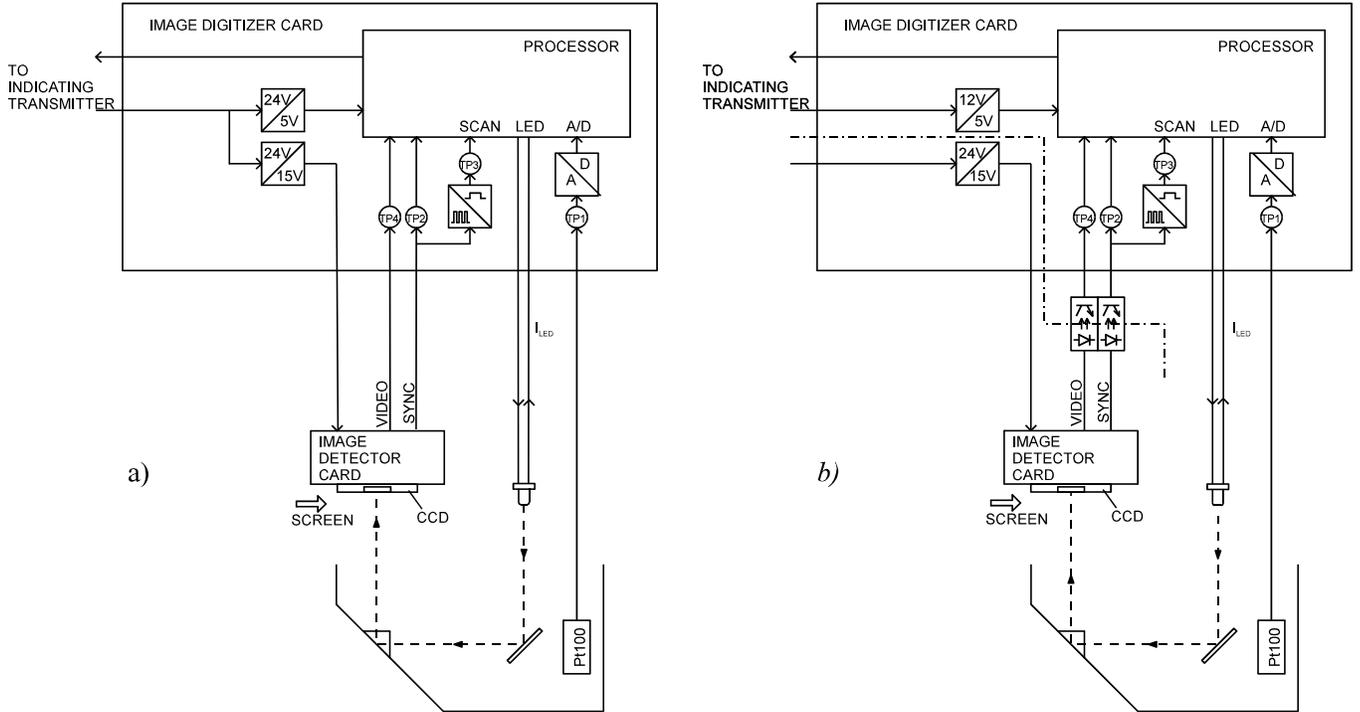
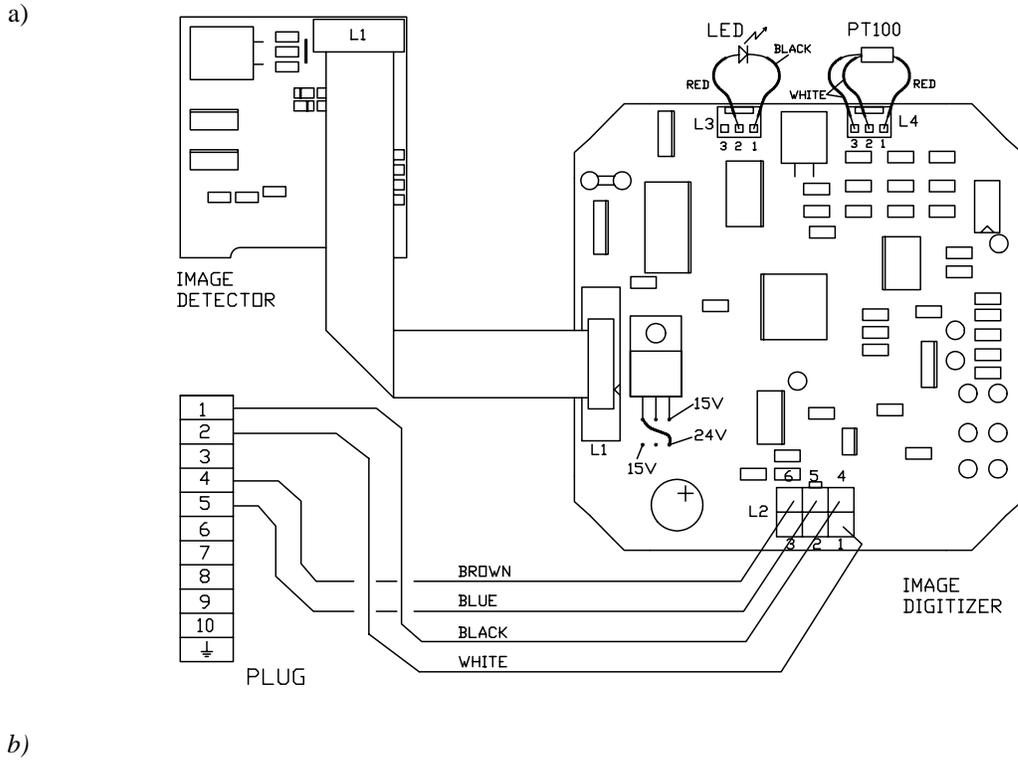
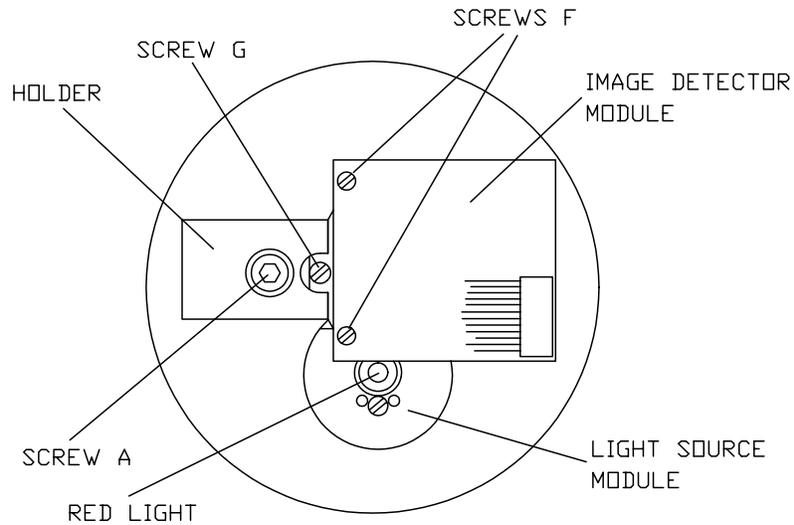
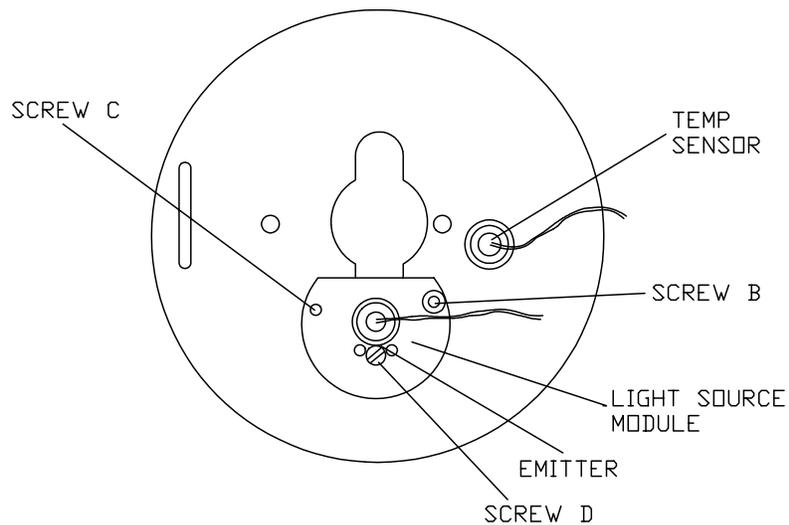

Figure 6.50 Sensor information and power flow.
Figure 6.52 Sensor electronics test points.
Figure 6.80 Sensor: Image Digitizer Card removed.
Figure 6.81 Sensor: Image Detector Module removed.
Study Figure 6.50 to get a basic understanding of how the Sensor works.
The video signal can also be measured directly by an oscilloscope. Use an oscilloscope with a 10 MOhm probe (10x) in AC mode. Connect the signal ground to TP 0V, and the channel to TP4, see Figures 6.52 and 6.50. The duration of one image is 3 ms. The voltage amplitude is 2.5 - 3.7 V corresponding to Indicating transmitter display 0 - 255.
- LED:** The LED current control signal on a scale 0-255 corresponding to 0 -8 mA. This is the current control signal from the Processor, and not an actual measurement of the LED current. The red light of the LED can be seen directly, Figure 6.80. If the operation is correct, the displayed LED value should be above 20 and below 200.
- Scans:** Number of optical images during one calculation cycle, typically 3 to 4. The scan pulses (with 5 V amplitude) can be measured at TP 3 (Figure 6.50).
The fault may be in the single path from Image digitizer to the interconnecting cable to the Processor card, see Figure 6.22. If the signal path is OK, then the Image digitizer does not work. Check the 24 V and the 5 V supply to Processor card, Figure 6.52. If the supply is OK, change the Image digitizer card.
The scan pulses (Figure 6.50) are missing at TP 3 (Figure 6.52). Check the 15 V supply to the Image detector card, Figure 6.52. If the 15 V supply is OK, but the sync signal TP2 is absent, then change the Image detector card. The sync signal is similar to the video signal but the pulse amplitude is constant. Check also the main power selection switch position, see Section 3.6.
A way to check the function of the Sensor is to place an opaque screen before the CCD-element, see arrow marked screen in Figure 6.50. When the screen blocks the light to the photocell, the video pulses should decrease. When the Max value drops below 200, the LED control signal should increase, which in turn should make the LED brighter.
The temperature is measured by a Pt100 platinum resistance element, see Figure 6.52 and also Section 7.1, Sensor parts, item 10. The Sensor raw data (Section 6.5) gives the A/D value, which refers to the temperature A/D converter: 0 - 1023 corresponds to 1.8 - 3.0 V corresponding to -75 °C .. 300 °C.
Remove the Image Digitizer Card, Figure 6.52. Note that all connectors have latches. The color code for the terminal strip is given by Figure 6.52. **Do not touch any other screw than A in Figure 6.80 and B in Figure 6.81.**
Remove Screw A, Figure 6.80. Then the holder can be removed. Gently pull the module out. **Be careful not to pull the Image detector card.** Pull from the back of the module body. At assembly note the aligning pin. Do not touch the screws G or F, because they fix the Image detector card with the CCD-element for receiving optical image correctly from the optics inside of the module.
Remove Screw B, Figure 6.81. Then the module can be pulled out. (The hole C should always be empty). The emitter assembly is locked by screw D and can be removed from the module.
Use fingers to turn the Temperature Sensor (Fig. 6.81) counter clockwise.